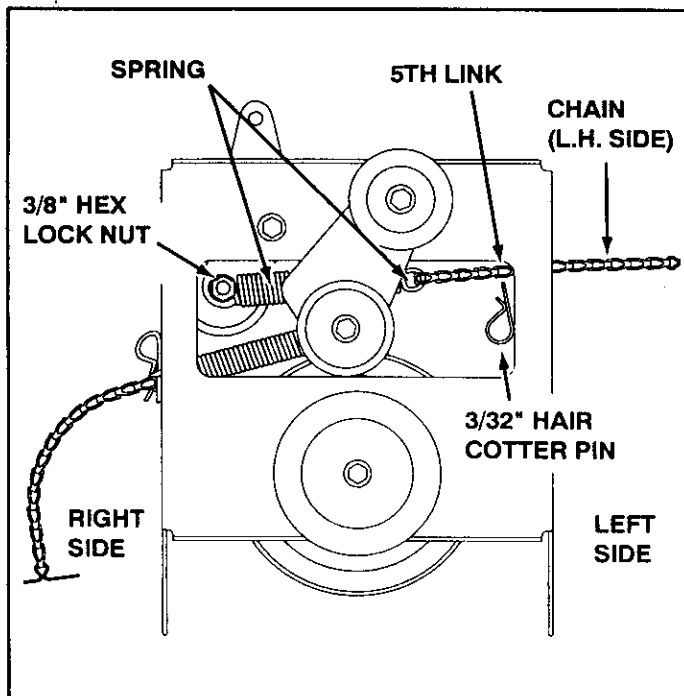

FIGURE 20 VIEW OF BOTTOM
- Hook the loose spring through the end of the tensioning chain. See figure 20.
- Hook the other end of the spring onto the bottom of the bolt and nut which secure the idler pulley to the upper idler arm. Hold the bolt head and assemble a 3/8" hex lock nut onto the bolt, leaving it loose enough for the spring to pivot freely between the two nuts. See figure 20.
- Attach a 3/32" hairpin cotter to the chain, placing it in the fifth link from the spring. See figure 20.